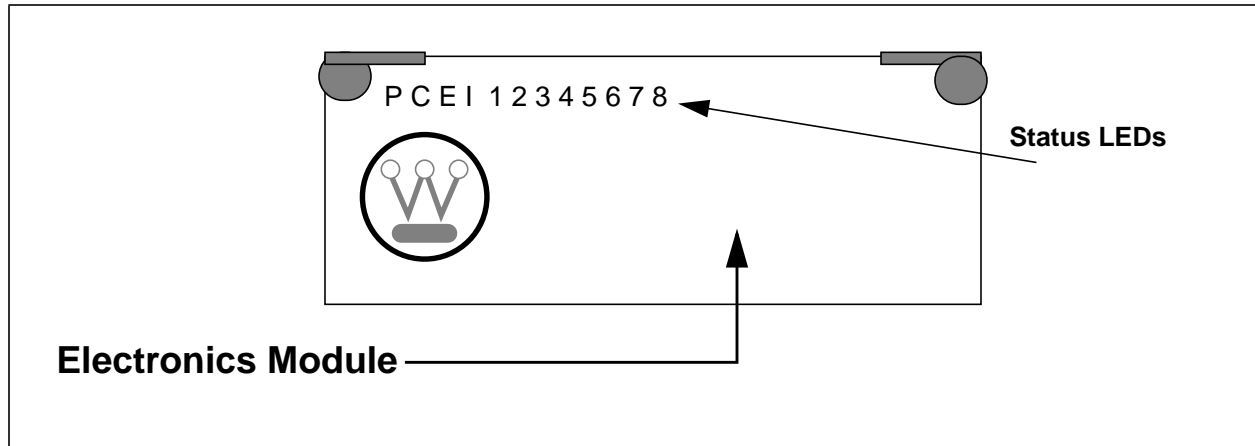

Figure 3-2. Link Controller Module LED Positions (Top View)
11. When power is applied, the LC board will perform a set of self-test diagnostics. Figure 3-2 illustrates the diagnostic LEDs on the LC Electronics module. Refer to Table 2-9 for LED descriptions.